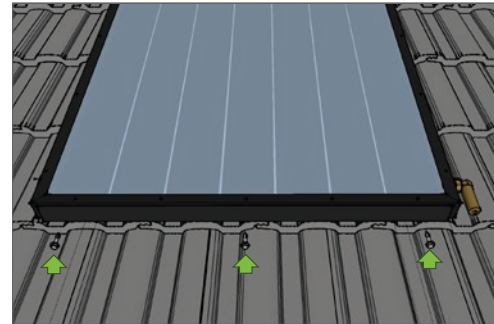

Fig 6
7. Fasten the collector to the mounting rail using the screws supplied (Fig 6)